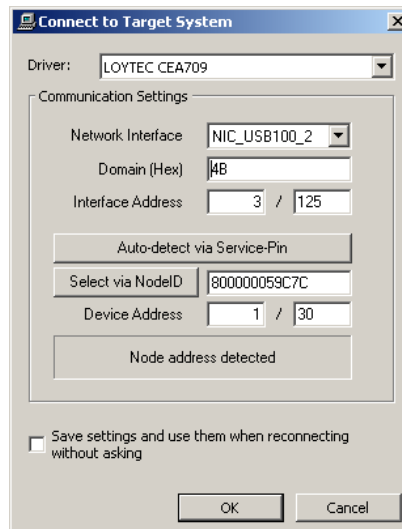

Figure 42: Connect via CEA-709
- **CEA-709:** Select the network interface to use and fill out all other fields, see Figure 42. Alternatively, select the network interface and press Auto-detect via Service-Pin. Then press the service pin on the device. Note that this connection method requires an installed LOYTEC network interface.